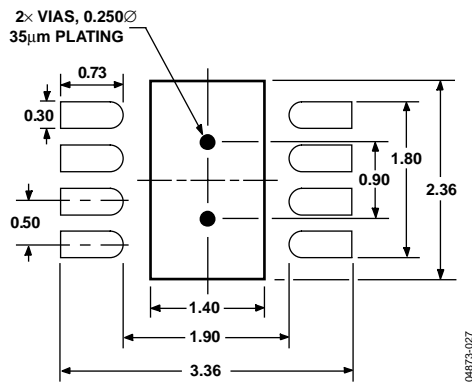

Figure 27. 3 mm × 3 mm LFSCP Pad Pattern
- The pad pattern is shown in Figure 27. Follow the pad dimension closely for reliable solder joints, while maintaining reasonable clearances to prevent solder bridging.